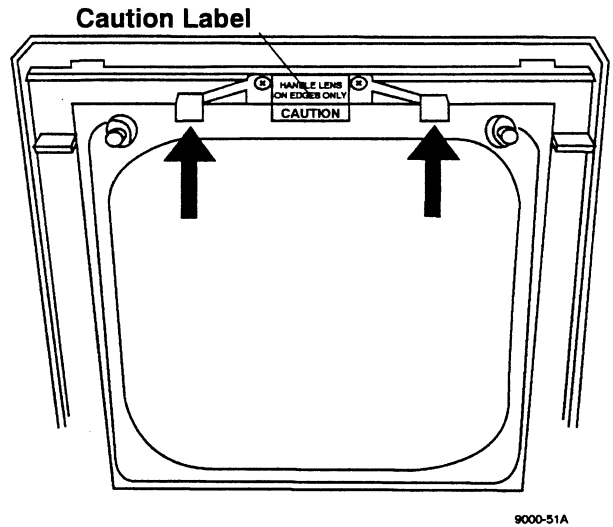

Figure 5-10. Fresnel Lens-Caution Label
2. Cut CAUTION label on dotted line. Figure 5-10.
4. Push on two retainer tabs to free Fresnel Lens and carefully remove. Figure 5-10.
3. Remove the metal retainer to free the glass. Figure 5-10.